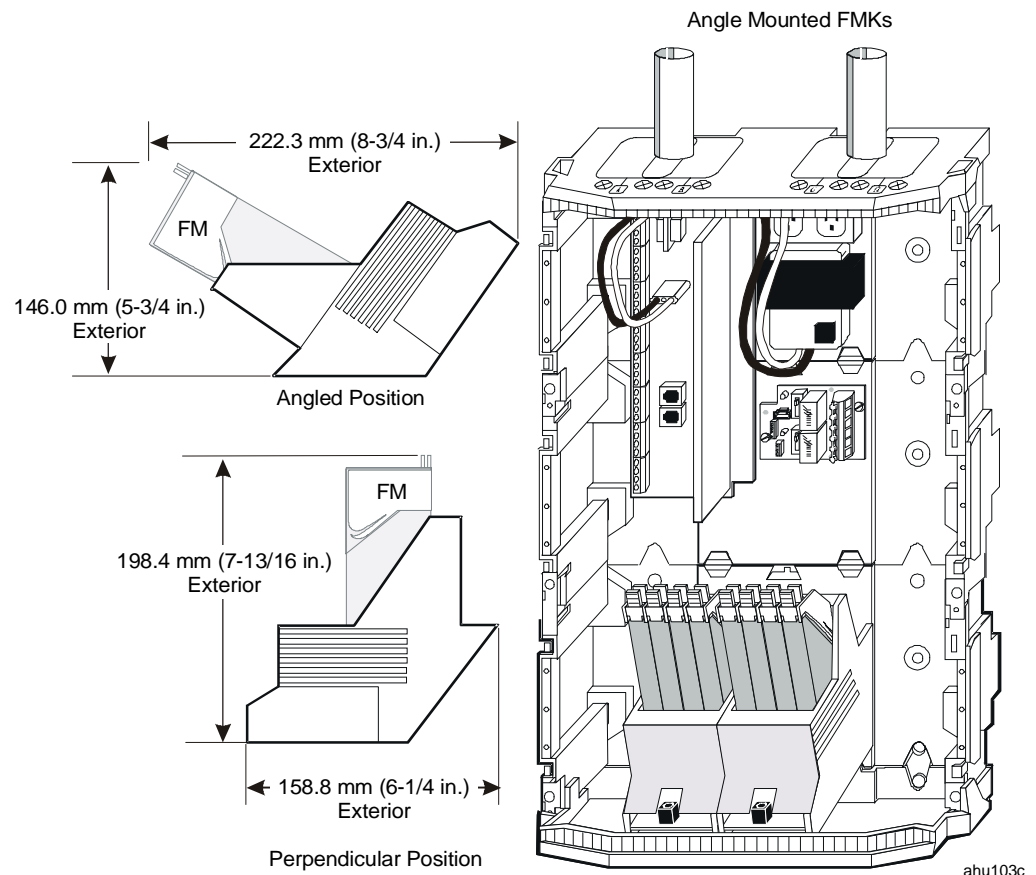

Figure 11: FMK Mounted in AHU103
4. Position the FMK so there is clearance to install the FMs and wire the terminals. Refer to Figure 11 for dimensions.